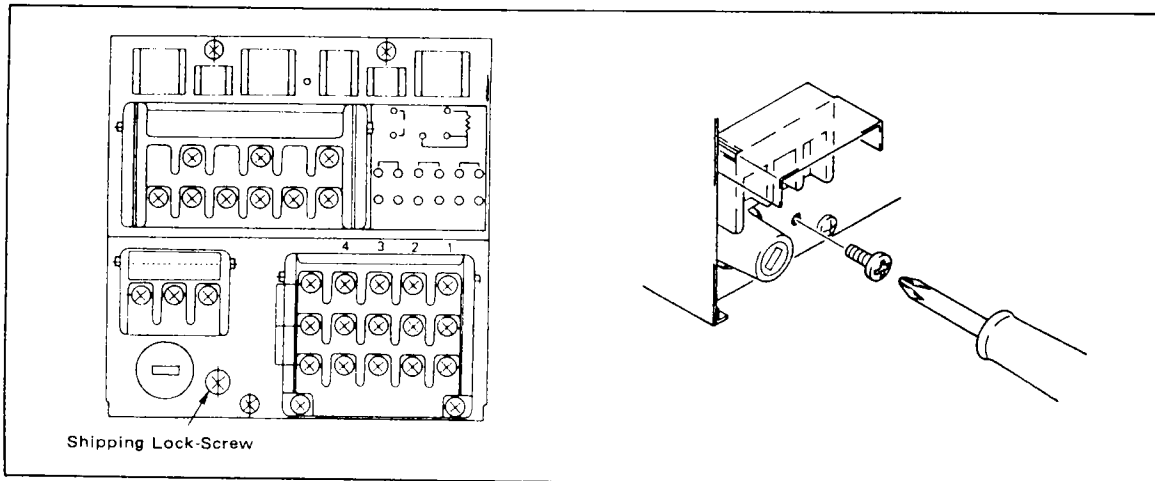

Figure 1-2.
- ① The shipping lock screw is located on the rear panel of the internal assembly (see Figure 1-2). Use a phillips screwdriver to remove the lock screw. The lock screw removed should be kept in a safe place.